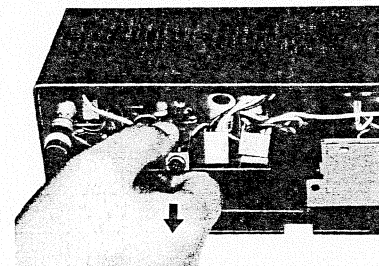

Fig. 4
2. Pull out the circuit board in the direction of arrow, as illustrated in fig. 4.